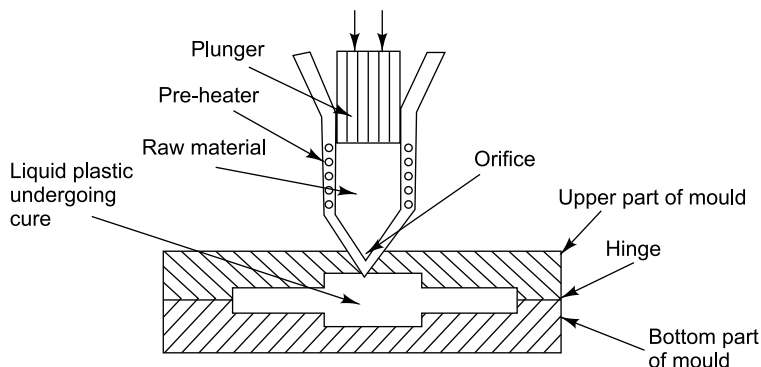

Fig. 2.3 Transfer moulding of plastics
- (iii) *Transfer moulding*: This is a modified form of injection moulding applicable for thermosetting resins. The raw materials (resin, filler and other ingredients) are heated in a chamber (just begins to become plastic) and then transferred through an orifice into the hot mould by plunger (Fig. 2.3). After the proper setting, the moulded article is ejected.